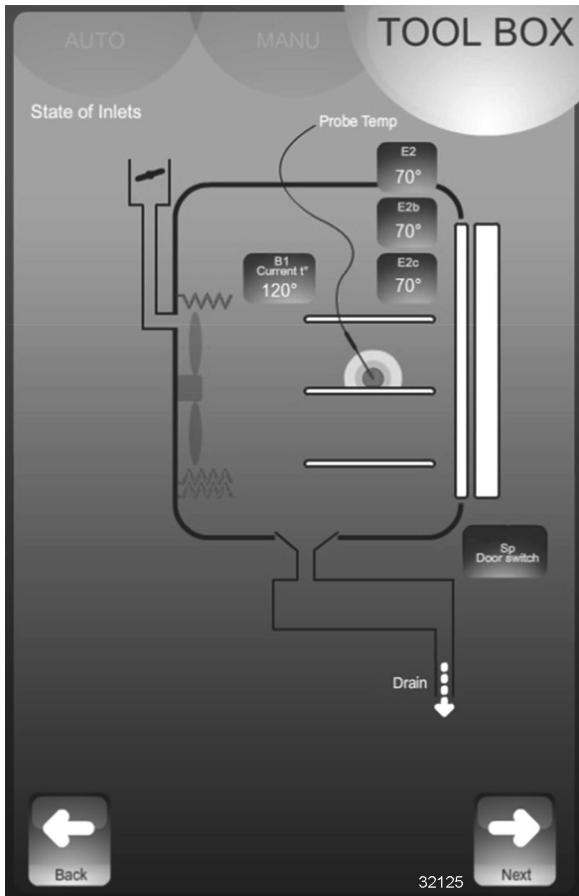

Fig. 98
5. Select **Next** icon to show **State of Inlets** screen (Fig. 98). Additional information is available in DIAGNOSTIC SCREENS.